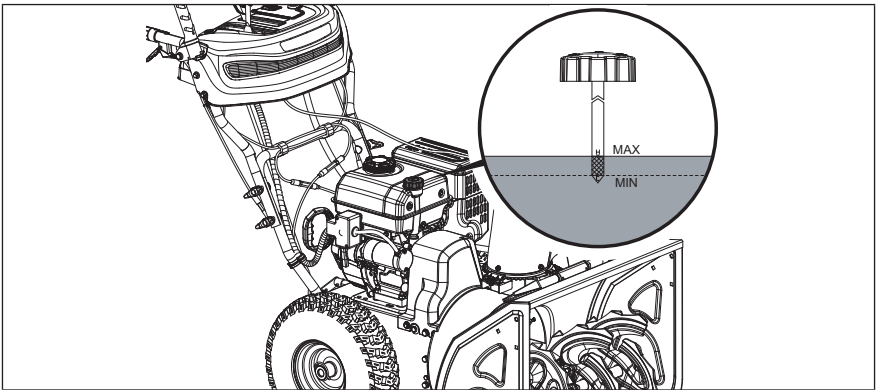

Figure 34
5. With the engine in a level position, fill to the upper limit mark on the dipstick with the recommended oil (0W-30). (Fig. 34)